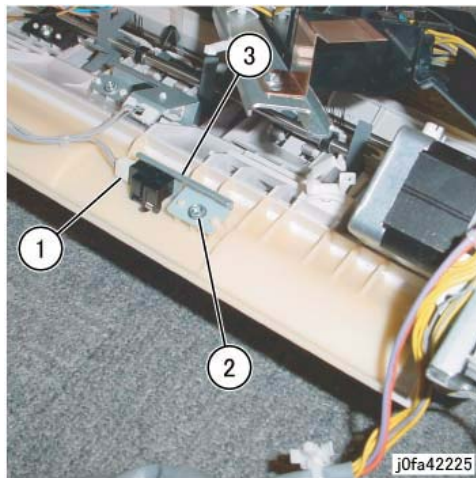

Figure 3 Removing the Finisher Entrance Sensor Assembly
8. Remove the Finisher Entrance Sensor Assembly (Figure 3):